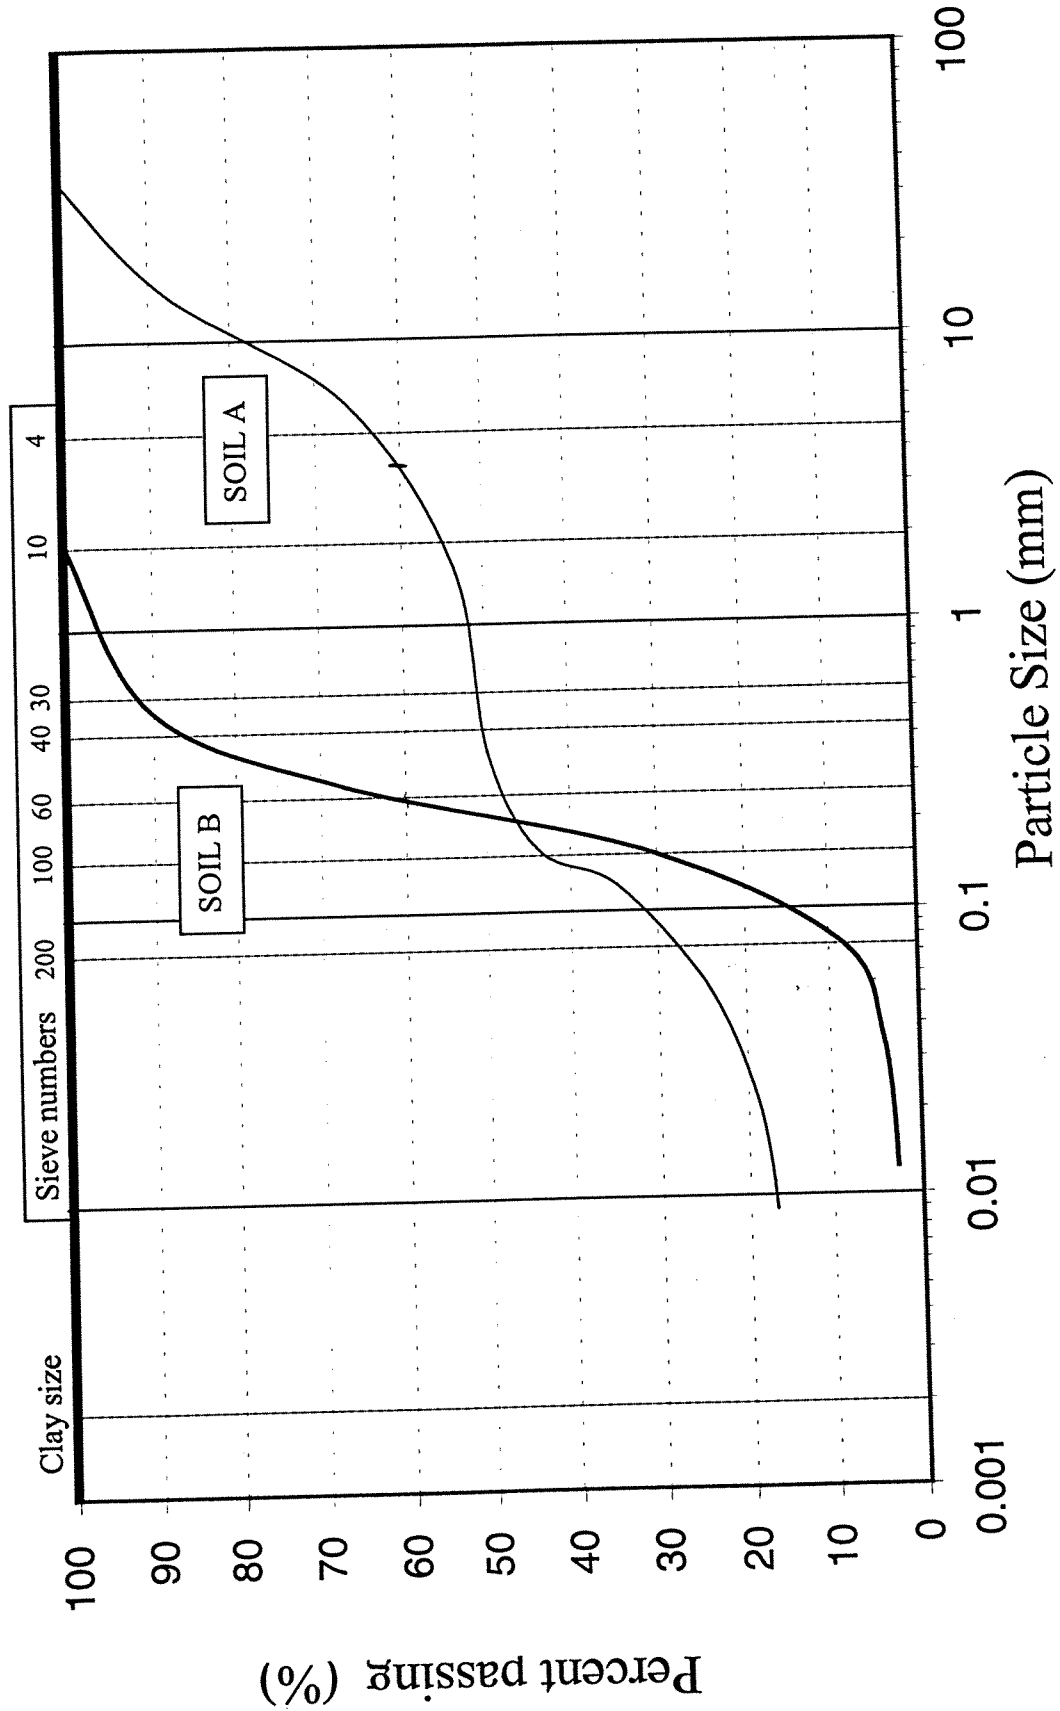

Figure Q.2
2. Classify the soils of figure Q.2 according to the Unified Soil Classification System. The fines of soil A have a liquid limit of 60% and a plastic limit of 20%, while those of soil B have a liquid limit of 30% and a plastic limit of 20%. In addition to providing the “letter” classification, provide a descriptive name for each soil. (value 20)